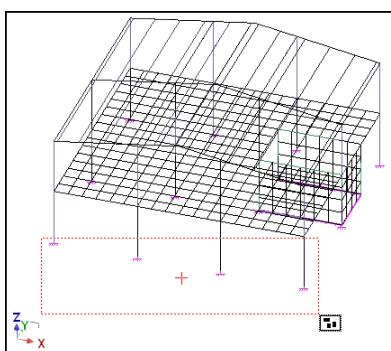

Figure 204: Selecting the supports of the first portal frame
1. Select the four supports of the first portal frame as in Figure 204.